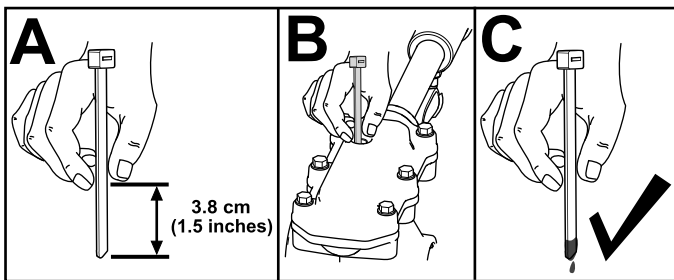

Figure 29
- Check the oil level using a suitable measuring device, such as a clean cable tie. The oil should be approximately 3.8 cm (1.5 inches) below the filler opening (Figure 29).